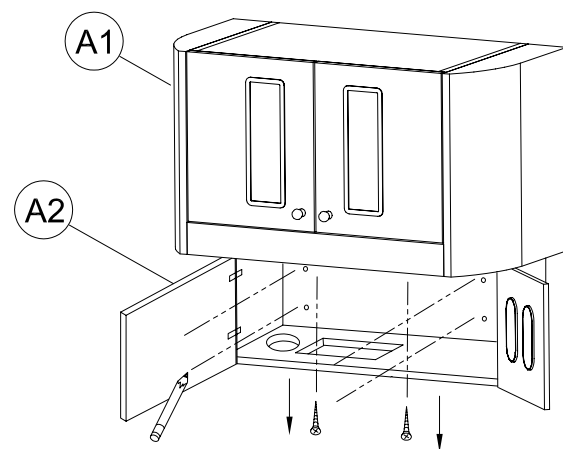

FIGURE 7A
Mark hole locations for fasteners through (4) holes in the back of the (A2) lower section. Remove the (2) wood screws holding the (A2) lower section to the (A1) upper section and remove the (A2) lower section. See Figure 7A